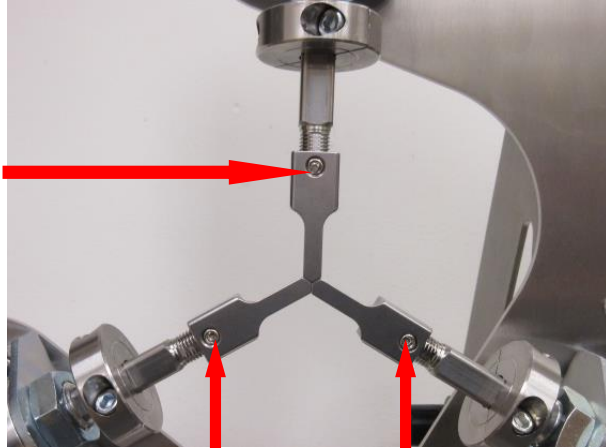

Figure 1
- Break loose the set screws on all three (3) jaws using a 1/8" hex wrench. (**Figure 1**)
- Once aligned use the 1/8" hex wrench to tighten all three (3) set screws in the jaws. (**Figure 1**)
- Remove all three set screws on the jaws using a 1/8" hex wrench. **(Figure 1)**
- Ensure that the jaws are aligned properly, as shown in **Figure 1 & 2**. Using a 1/8” hex wrench, tighten the set screws on each jaw after you have the jaws properly aligned. (**Figure 2**)